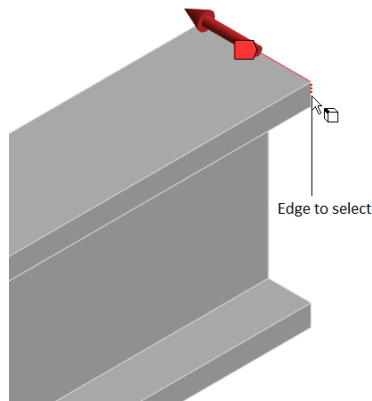

Figure 2-52 Selecting the edge to specify the direction for applying the load
12. Select the **Direction** selection box to display the **Apply** and **Cancel** buttons. Next, select the edge of the model, as shown in Figure 2-52.